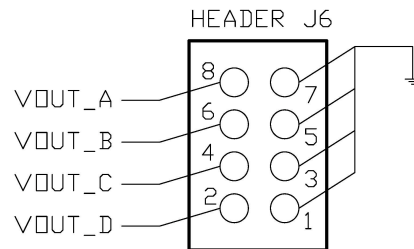

Figure 4: J6 Output Header
5. The Analog Output signals of each channel can be seen DC coupled at header J6. See the header schematic of *Figure 4* for details.